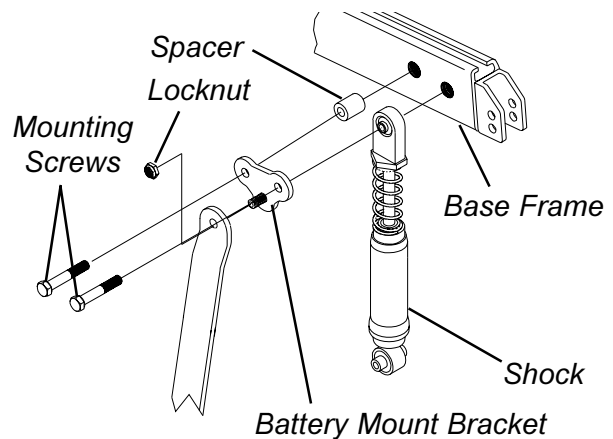

FIGURE 3 - REMOVING GROUP 22 COMPONENTS
7. Remove the four (4) mounting screws that secure the battery mount brackets to the base frame and remove the battery mount brackets.
**Removing Group 22 Components (FIGURE 3)**